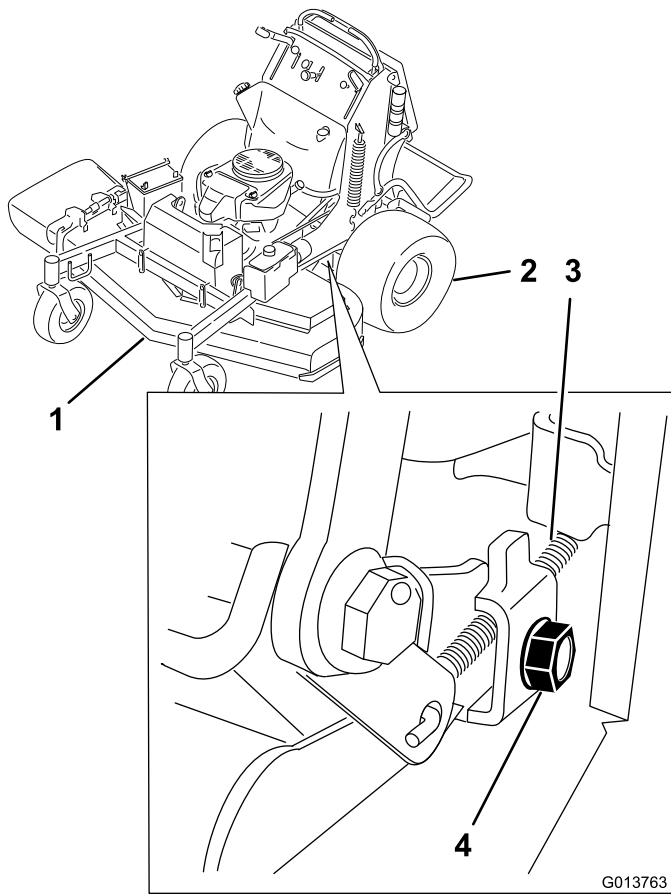

Figure 3
- 7. Loosen the cable clamp securing the speed control cable jacket to the shifter bracket (Figure 3). It is easiest to access this under the lower frame and in front of the left rear wheel.